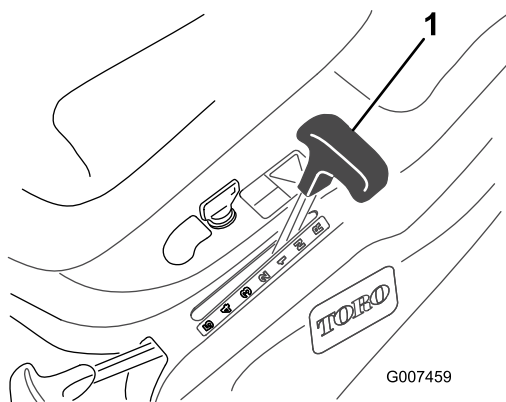

Figure 9
3. Shift the ground speed lever into Neutral (N) (Figure 9).